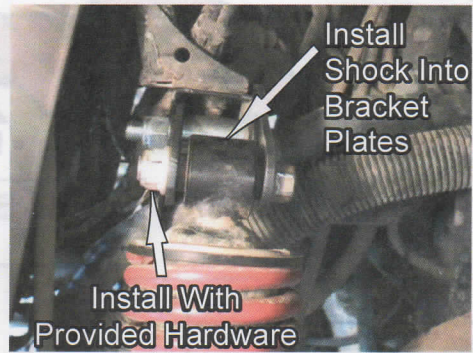

Fig.4
- Next, install the shock into the new Shock Mount Bracket plates using the 3/8-16 x 2.25" Lg Hex Head Bolt, 3/8" Flat Washers & 3/8" & NylockNut. See Fig.4.